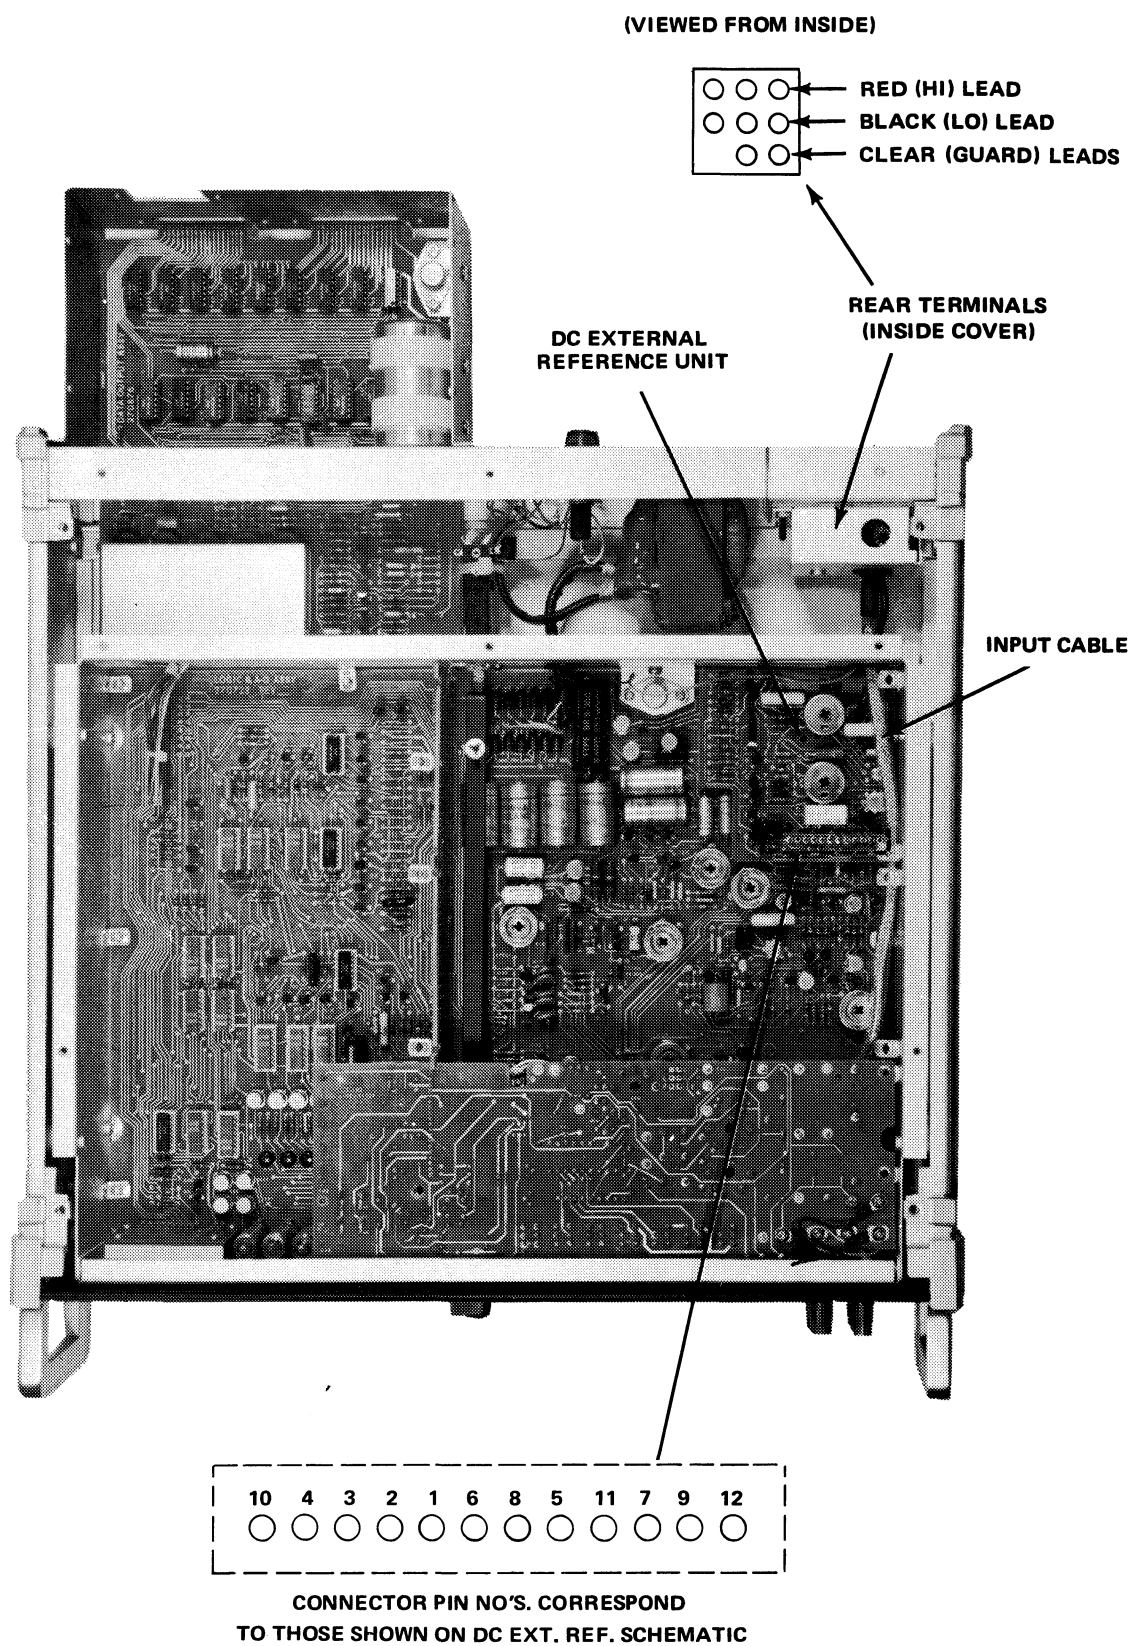

Figure 6-1. DC EXTERNAL REFERENCE OPTION INSTALLATION
- b. Locate the DC External Reference mounting area. See (Figure 6-1).
- e. Complete the installation by connecting the cable lugs to the rear terminals as shown in Figure 6-1).